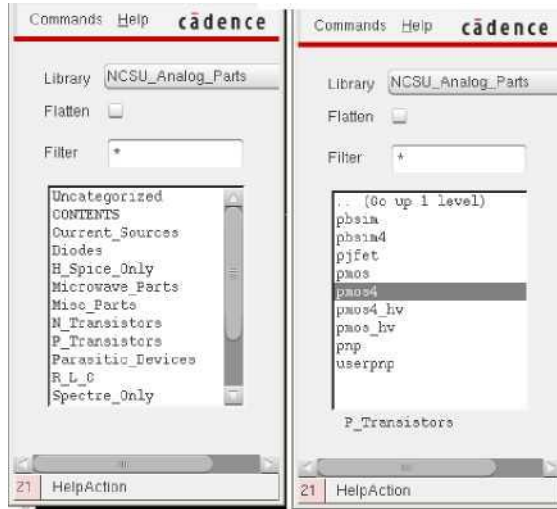

Figure 2. Adding a PMOS transistor from Component browser
- After the schematic window opens, we wish to add two transistors to form an inverter circuit. Select Create > Instance (keyboard shortcut: i) to open “Component Browser” window. (If you cannot use the shortcut, or “Component Browser” window won’t come up, just ask TA. This implies your cadence setup has some problem.) Make sure that “NCSU_Analog_Parts” is selected in Library list as shown in Figure 2. Let us add a PMOS transistor first. Please select “P_Transistors” in the list, and you will find “PMOS4” from the list of P_Transistors. Switch to the schematic window again and click a position where you would like to add a PMOS transistor. In a similar way, you can add NMOS transistor in your schematic from Component Browser by selecting “NMOS4” from the list of N_Transistors. Press ESC to escape from Add Instance mode.